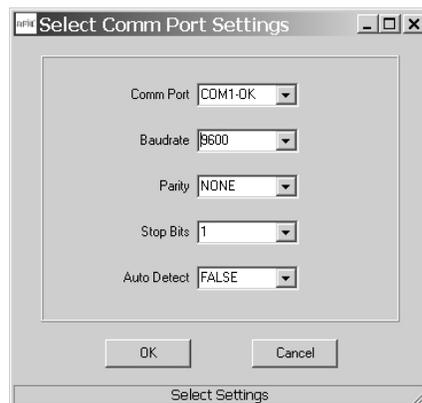

Figure 5
- Click on *Connect* to open the *Select Comm Port Settings* dialog box, as shown in Figure 5. If necessary, set the baud rate to 9600 bps. Set the *CommPort* to match the serial port connected to the